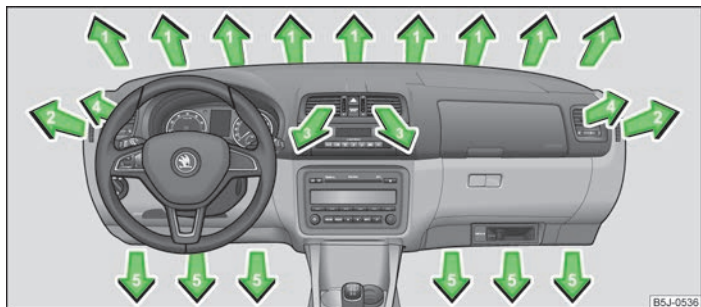
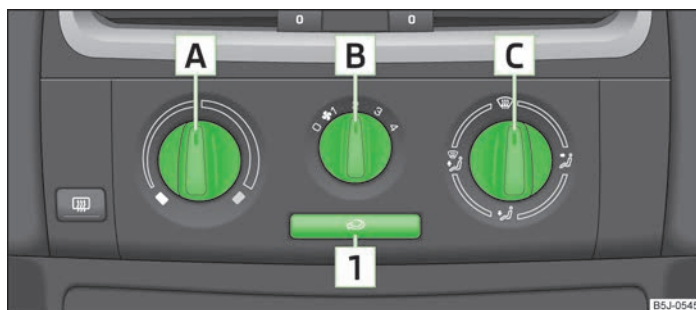

Fig. 74 Air outlet vents
Fig. 75 Heating: Control elements
➤ Turn the vertical wheel (air vents 3) » Fig. 74 or the horizontal wheel (air outlet nozzles 4) into position 2.
➤ Turn the vertical wheel (air vents 3) » Fig. 74 or the horizontal wheel (air outlet nozzles 4) into position 0.
- In order to change the strength of the air flow, swivel the horizontal lamellas with the aid of the moveable adjuster » Fig. 74.
Set the air supply to the individual vents with the air distribution control [C] » Fig. 75 on page 68. Air outlet vents 3 » Fig. 74 and 4 can also be opened or closed individually.
- Turn the control dial [A] » Fig. 75 to the right to increase the temperature.
- Turn the blower switch [B] » Fig. 75 into one of the positions, 1 to 4, to switch the blower on.
- The direction of the inlet air flow is controlled with air distribution regulator [C] » Fig. 75 » page 68.
All controls apart from the blower switch [B] » Fig. 75 can be set to any desired intermediate position.
- Controls **A** » Fig. 75 on page 68, **B**, **C** and the button **1**.
- Press the button  **1** » Fig. 75 on page 68 and the warning light in the button illuminates.
- Press the button  **1** » Fig. 75 on page 68 again - the warning light in the button goes out.
Recirculated air mode is switched off automatically if the air distribution control **C** » Fig. 75 on page 68 is turned to position . Recirculated air mode can be switched on again from this setting by repeatedly pressing the button . ▶